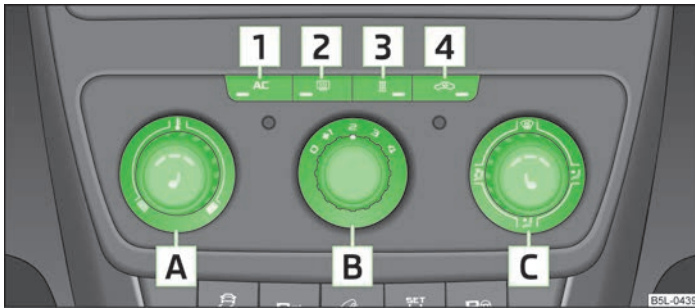

Fig. 90 The air conditioning system: Control elements
The cooling system only operates if the button **AC 1** » Fig. 90 on page 84 is pressed, and the following conditions are met:
- Turn the control dial **A** » Fig. 90 to the right to increase the temperature.
- Turn the blower switch **B** » Fig. 90 into one of the positions, 1 to 4, to switch the blower on.
- Press the button **4** to close the fresh air supply » Fig. 90.
- The direction of the inlet air flow is controlled with air distribution regulator **C** » Fig. 90 » page 81, *Air outlet vents*.
- Press the button **1** » Fig. 90. The indicator light lights up in the button.
- Press the button **2** » Fig. 90. Further information » page 47, *Windscreen and rear window heater*.
- Press the button **3** » Fig. 90 to directly switch on/off the auxiliary heating (auxiliary heating and ventilation). Further information » page 88, *Auxiliary heating (auxiliary heating and ventilation)*.
- The indicator light **AC** » Fig. 90 lights after activation, even if not all of the conditions for the function of the cooling system have been met » page 83, *Introductory Information*. By lighting up of the indicator light in the button, the operational readiness of the cooling system is signalled.
- Controls **A**, **B**, **C** and the button **1** and **4** » Fig. 90 on page 84.
- Press the button  **4** » Fig. 90 on page 84 and the indicator light in the button illuminates.
Recirculated air mode is switched off automatically if the air distribution control **C** » Fig. 90 on page 84 is turned to position . Recirculated air mode can be switched on again from this setting by repeatedly pressing the button .